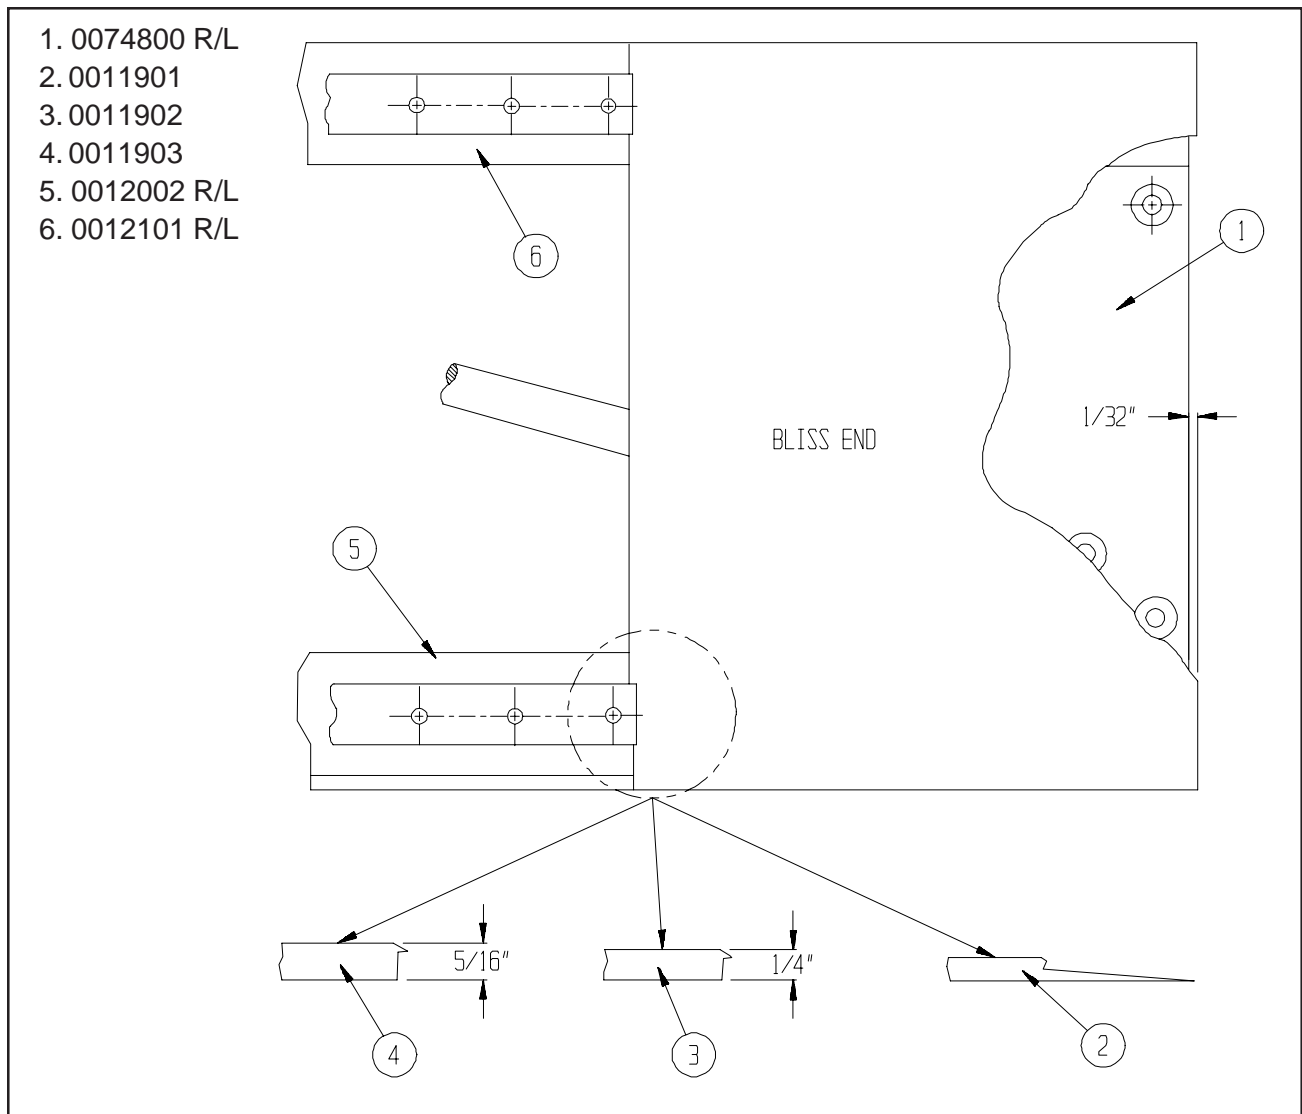

Figure 5-2: Forming Mandrel End Pick Adjustment
The adjustment of the Forming Mandrel End Pick is done most efficiently before the Forming Mandrel is installed. Adjust them so the bliss end is 1/32 inch extended beyond the end of the Mandrel (0074800 R/L). Due to variations in corrugated. It is recommended to adjust the End Picks by measurement making certain the knife edge of the End Picks are buried into the bliss end. There are three (3) different size End Picks being used, they are illustrated in Figure 5-2. The Box Support Bars (00172xx) must also match the corresponding End Picks.